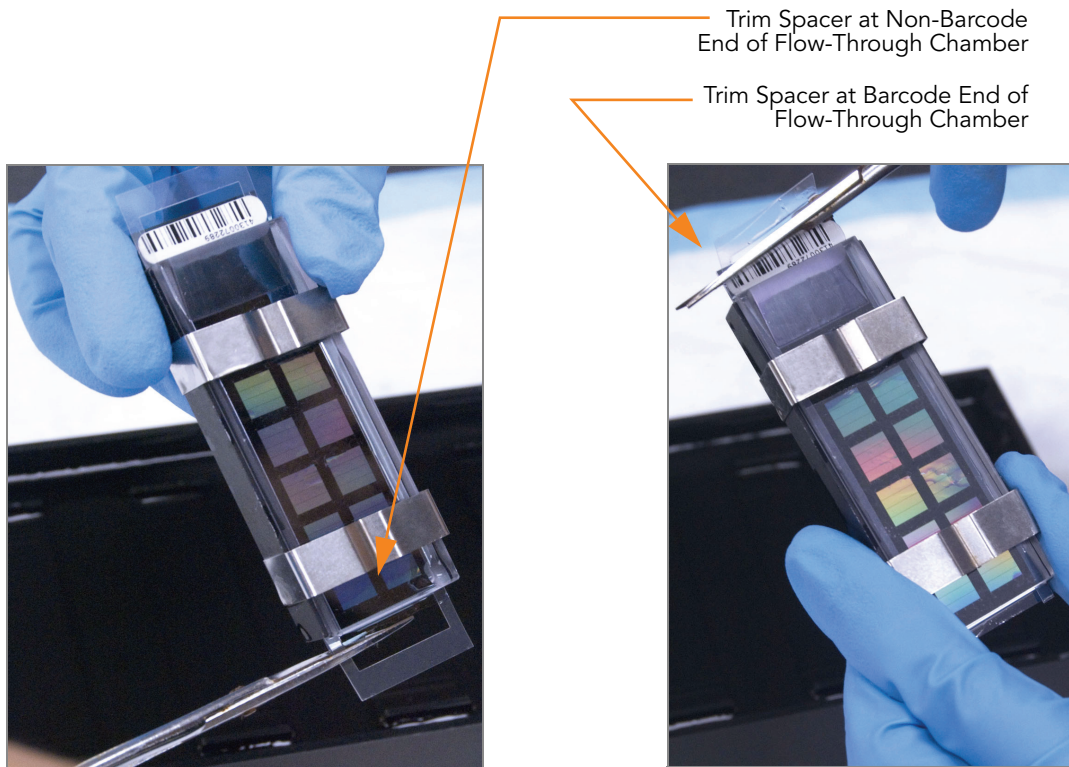

Figure 169 Trimming Spacer Ends from Flow-Through Chamber Assembly
9. Using scissors, trim the ends of the clear plastic spacers from the Flow-Through Chamber assembly (Figure 169):